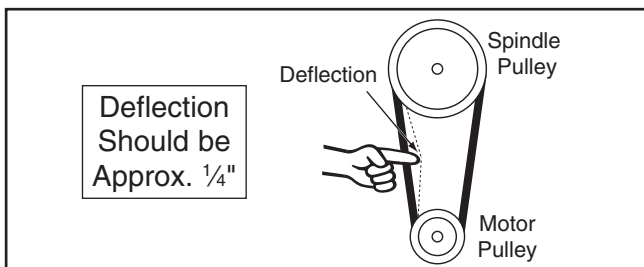

Figure 105. Belt deflection.
6. Tighten the motor mount bolts and check the belt deflection, as shown in **Figure 105**, and re-adjust if necessary.